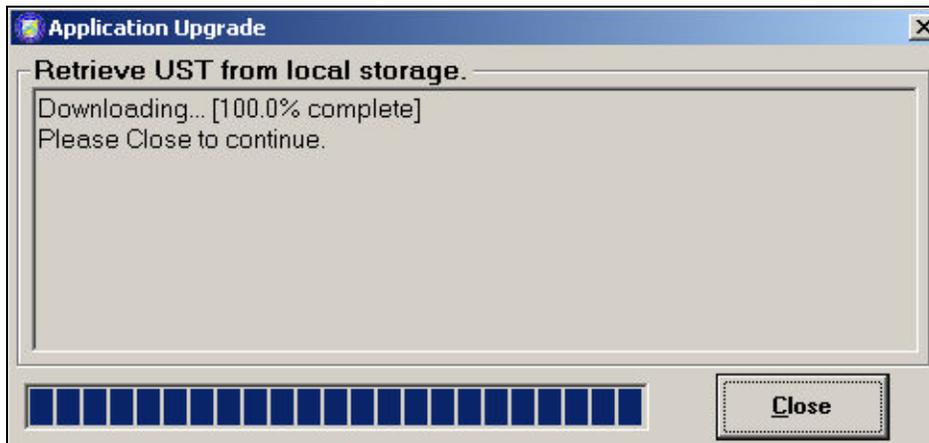

Figure 6.10.5
3. Click **'Yes'** to install the upgrade now, or **'No'** to postpone the install. Installation of the upgrade can be postponed but it is not recommended as the upgrade is assigned a specific grace period and must be installed within that period of time. The 'Application Upgrade' window opens (Figure 6.10.5).